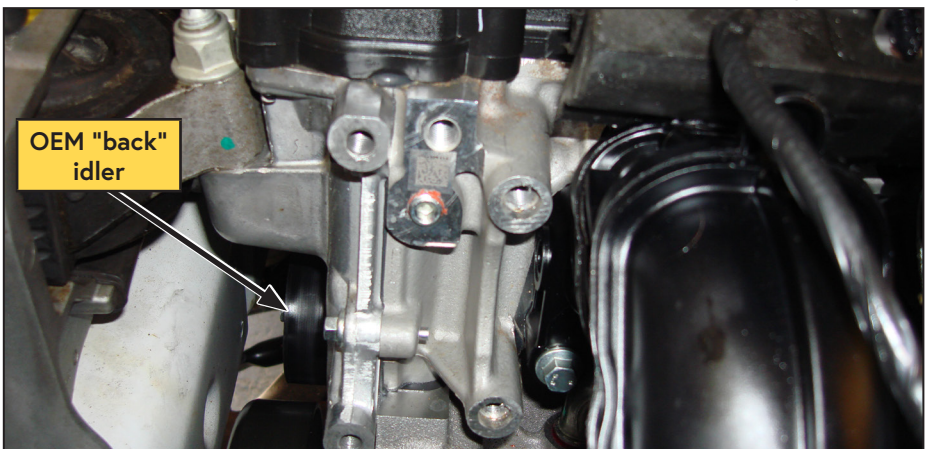

Figure 14 — OEM Back Idler
- Remove and discard the OEM "back" idler. The idler has an M6 bolt (Figure 14).